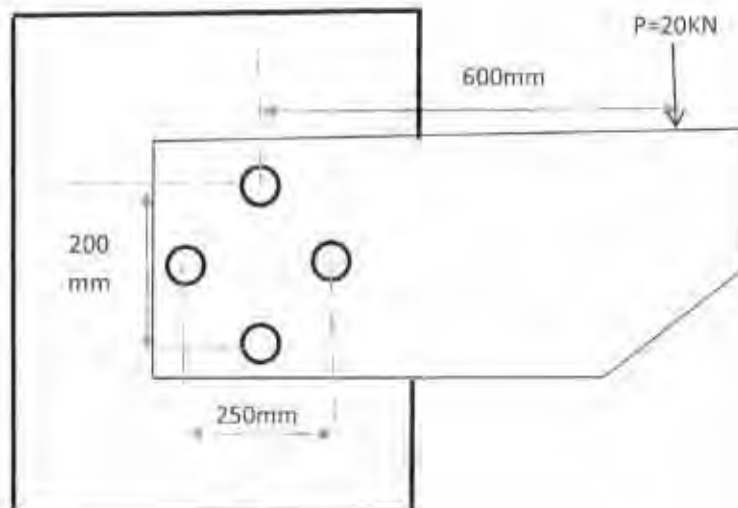

Fig. 2
- (b) A bracket is supported by four rivets of equal diameter as shown in figure 2, to support a load of 20kN. Determine the size of the rivet, taking the permissible shear stress as 60MPa. 10